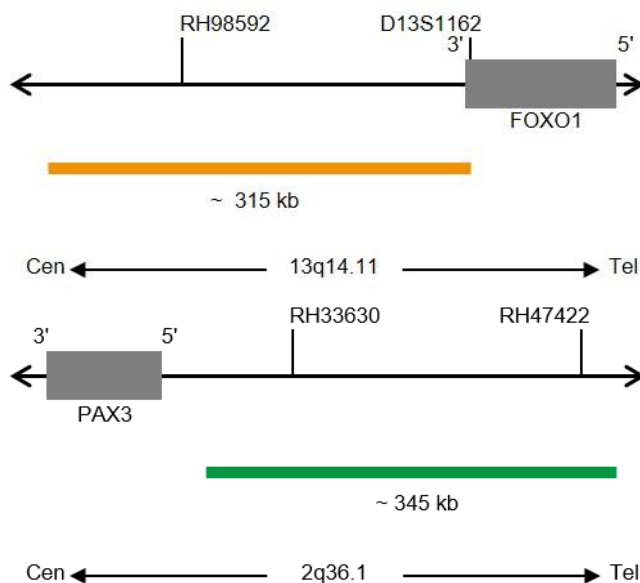

Fig. 1: Top: SPEC FOXO1 Probe map; Bottom: SPEC PAX3 Probe map (not to scale)
- ZyOrange (excitation 547 nm/emission 572 nm) labeled polynucleotides (~4.5 ng/μl), which target sequences mapping in 13q14.11\* (chr13:40,816,168-41,132,595) proximal to the FOXO1 breakpoint region (see Fig. 1).
- ZyGreen (excitation 503 nm/emission 528 nm) labeled polynucleotides (~10 ng/μl), which target sequences mapping in 2q36.1\* (chr2:223,196,078-223,539,352) distal to the PAX3 breakpoint region (see Fig. 1).